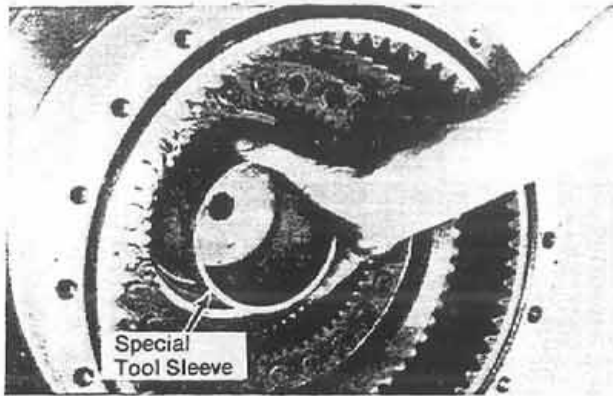
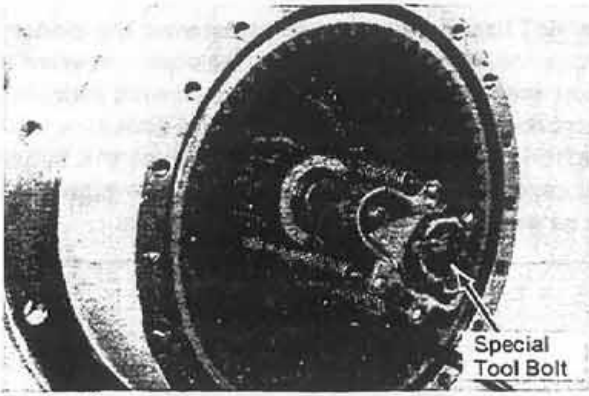

Figure 32:
Figure 33:
Step 58. Place the special push collar P/N 58-004 (Fig. 32) over the puller cap. Place a 30 ton power-twin unit against the push collar and install the 1" puller bolt through the port-a-power unit (Fig. 33). Engage the bolt threads until the port-a-power unit is snug against the collar.